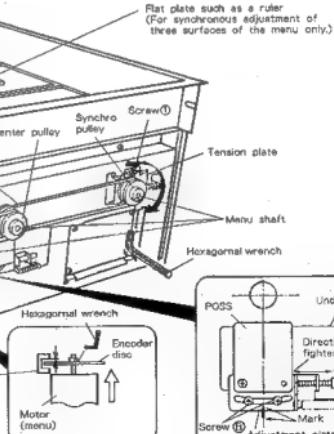
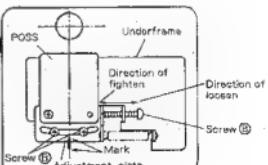
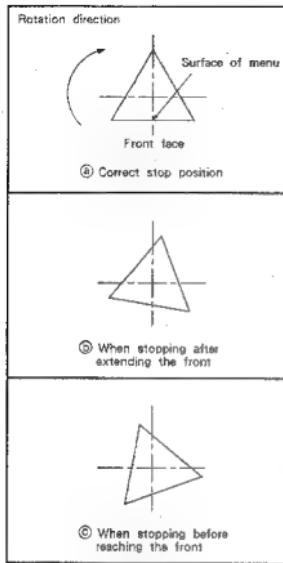

Fig. 7-2
Fig. 7-3
Fig. 7-4
- Loosen screw ② which holds the encoder disc using a hexagonal wrench.
- Loosen screw ③ which holds the adjustment plate.
- (1) Set the gap between the encoder disc and photo interrupter of the motor (menu) to $1\frac{1}{2}$ mm. (Fig. 7-2)
- (2) Fix the screw of the encoder disc by tightening with a hex wrench.
- (3) Turn screw ③ so that the carved mark on the adjustment plate aligns with the underframe. Then temporarily tighten screw ③.
- (4) Push the ROTATE MENU key on the front panel of the main unit so that menu rotates. Then, perform the following adjustments depending on the condition. (Fig. 7-3)
- Loosen screw ④, then tighten screw ⑤ turning it clockwise.
- Loosen screw ④ and turn screw ⑤ counterclockwise to loosen it.
- (5) Turn the menu again and firmly tighten screw ③ when the menu stops directing its surfaces to the front. (Fig. 7-4 ④)
- (6) Finally, turn the menu and check that the menu stops directing all of its three surfaces to the front at every 120° rotation.